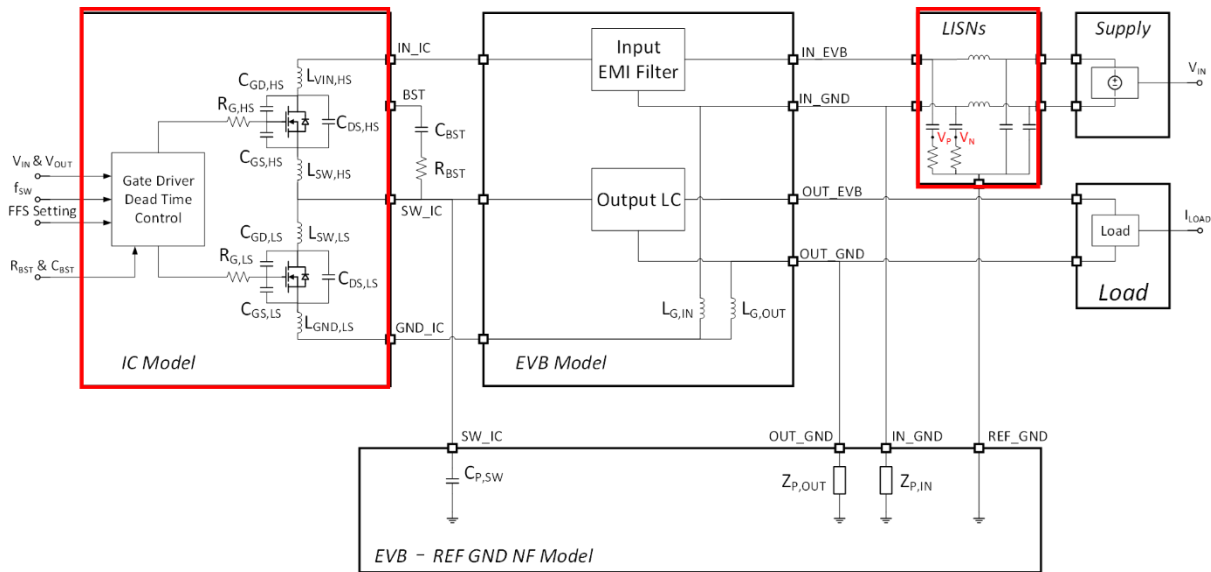

Figure 37: Diagram of Conducted Emissions (CE) Model
Figure 37 on page 26 shows the main elements of a conducted emissions (CE) model in the virtual simulation lab.